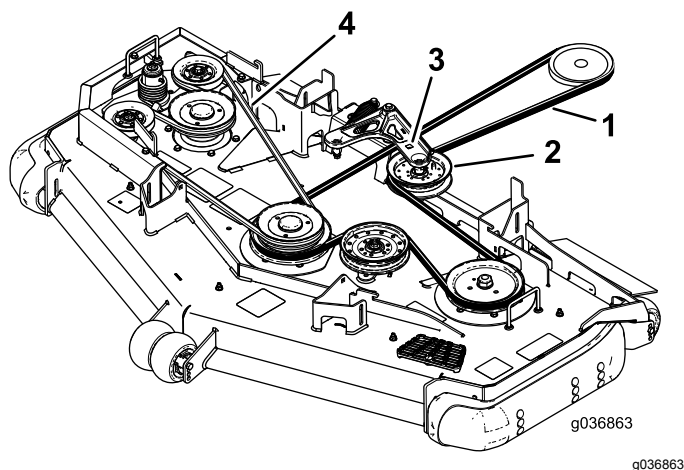

Figure 98
6. Use a ratchet in the square hole in the idler arm to remove tension on the idler spring (Figure 98).
8. Install the new belt around the mower pulleys and the clutch pulley under the engine (Figure 98).
10. Using the ratchet in the square hole, install the belt around the spring-loaded idler pulley (Figure 98). Seat the spring ends in the anchor grooves.